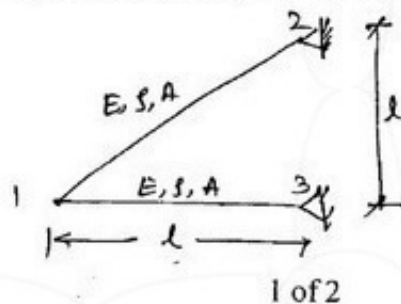

Fig.Q6
- 6 Find the natural frequency for the truss system as shown in Fig.Q6. Use lumped mass.